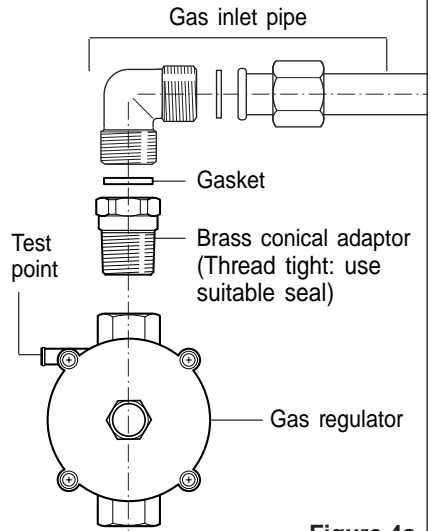

Figure 4a
- If the cooktop is suitable for use with Natural gas and must be converted for use with Universal LPG, before connecting to gas main remove the appliance gas regulator and replace with test point adaptor (see figs. 4a, 4b).
- If the cooktop is suitable for use with Universal LPG and must be converted for use with Natural gas, before connecting to the gas main remove the appliance test point adaptor and replace with gas regulator (see figs. 4a, 4b).